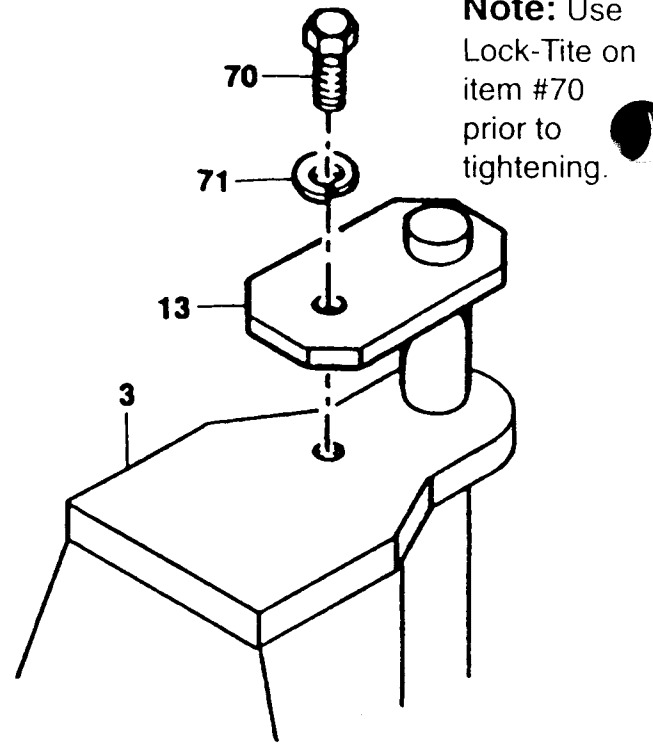

Figure 4
6. Position the blade halves so the bushings on the blade assemblies and the center hinge assembly are aligned. Position the right hand blade assembly first, as it has the lowest bushing. Coat the center hinge pin with a thin film of grease and insert it through all of the bushings. NOTE: During the snowplow season each bushing on the nose of the snowplow should be greased at least once per month (Fig. 7). When the center hinge pin has been fully inserted, it is to be secure with a 3/8" x 1 1/4" bolt (Ref. No. 70, Fig. 4), a 3/8" lock washer (Ref. No. 71, Fig. 4) and Lock-Tite.